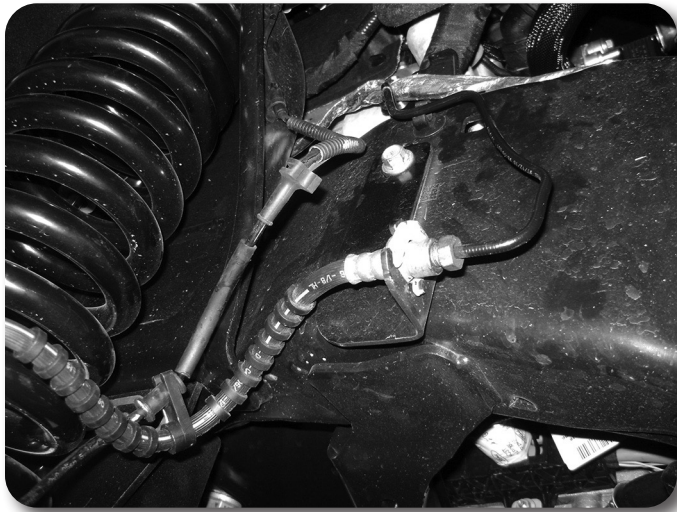

Figure 14A (Passenger's Side)
36. Install the new brake line brackets, brackets are side specific. Brake lines will need to be reformed to reach the new mounting position. It may be necessary to slightly twist the brakeline fittings in relation to the hardline to get adequate clearance to the frame / wheel and tire. **Figure 14A.B** Tighten to 101 in-lbs.